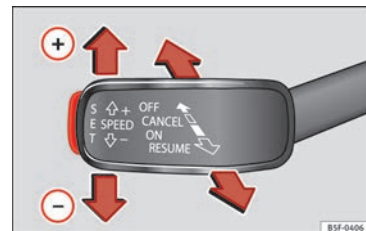

Fig. 50 On the left of the steering column: third lever to operate the CCS. **»**
- Switching on the CCS: move the third lever to **ON** »» Fig. 50. The system switches on but it does not control the speed as no speed has been programmed.
- Activating the CCS: press the **SET** »» Fig. 50 button. It memorises and maintains the current speed.
- Temporarily switching off the CCS: move the lever to **CANCEL** »» Fig. 50 and release it or
- Reactivating the CCS: move the lever to **RESUME** »» Fig. 50 and release it. The memorised speed is saved and controlled again.
- Switching off the CCS: move the third lever to position **OFF** »» Fig. 50. The system is disconnected and the memorised speed is deleted.